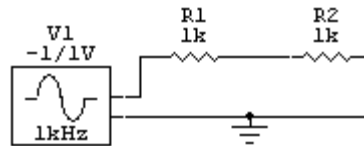

Figure 3.12. A simple AC circuit with a Signal Generator and two Resistors.
- 2 Draw the circuit as shown in Figure 3.12, using the following devices: